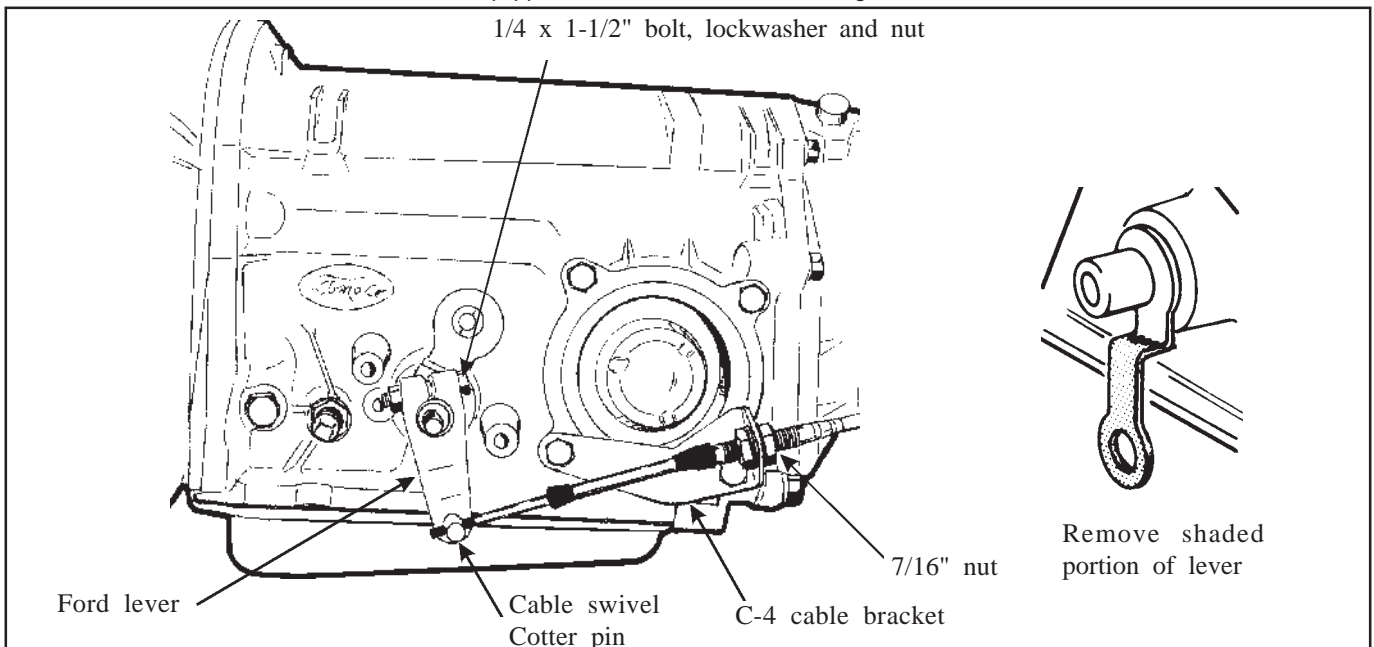

Figure 5
STEP 14. Install the **B&M** selector lever, see **figure 5 or 6.** Note: The **B&M** lever must point downward for proper operation. If the stock shift lever on your transmission points down, you will have to remove the lower part of the stock arm by cutting it off to clear the **B&M** lever, see **figure 5.** Install **B&M** selector lever onto shift shaft of transmission. Align selector lever so when it points straight down it travels equal arcs in both directions from center, then tighten $\frac{1}{4}$ "-20 x $1\frac{1}{2}$ " pinch bolt and nut. The lever should travel smoothly
C-4, C-5: Remove the two lower bolts from the rear servo cover. Install cable bracket in position, see **figure 5**. Install two servo cover bolts as removed and tighten 12-13 ft. lb. Do not overtighten as this can distort servo cover.